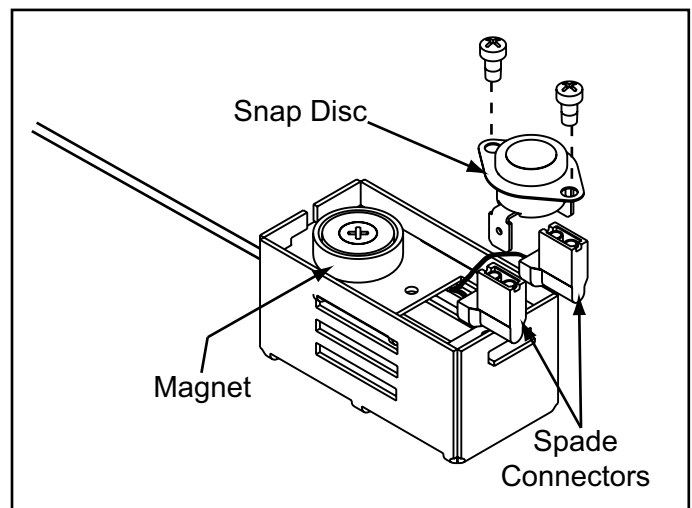

Figure 30.4
3. Pull the snap disc and spade connectors up and out of bracket as shown in **Figure 30.4.**